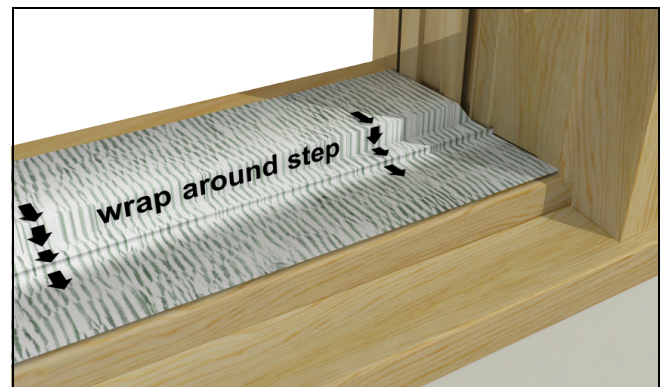

Figure 1
1. Apply an adhesive backed flashing to the existing frame sill from the exterior up any steps in the frame ending at the interior face of the new unit frame. See figure 1.